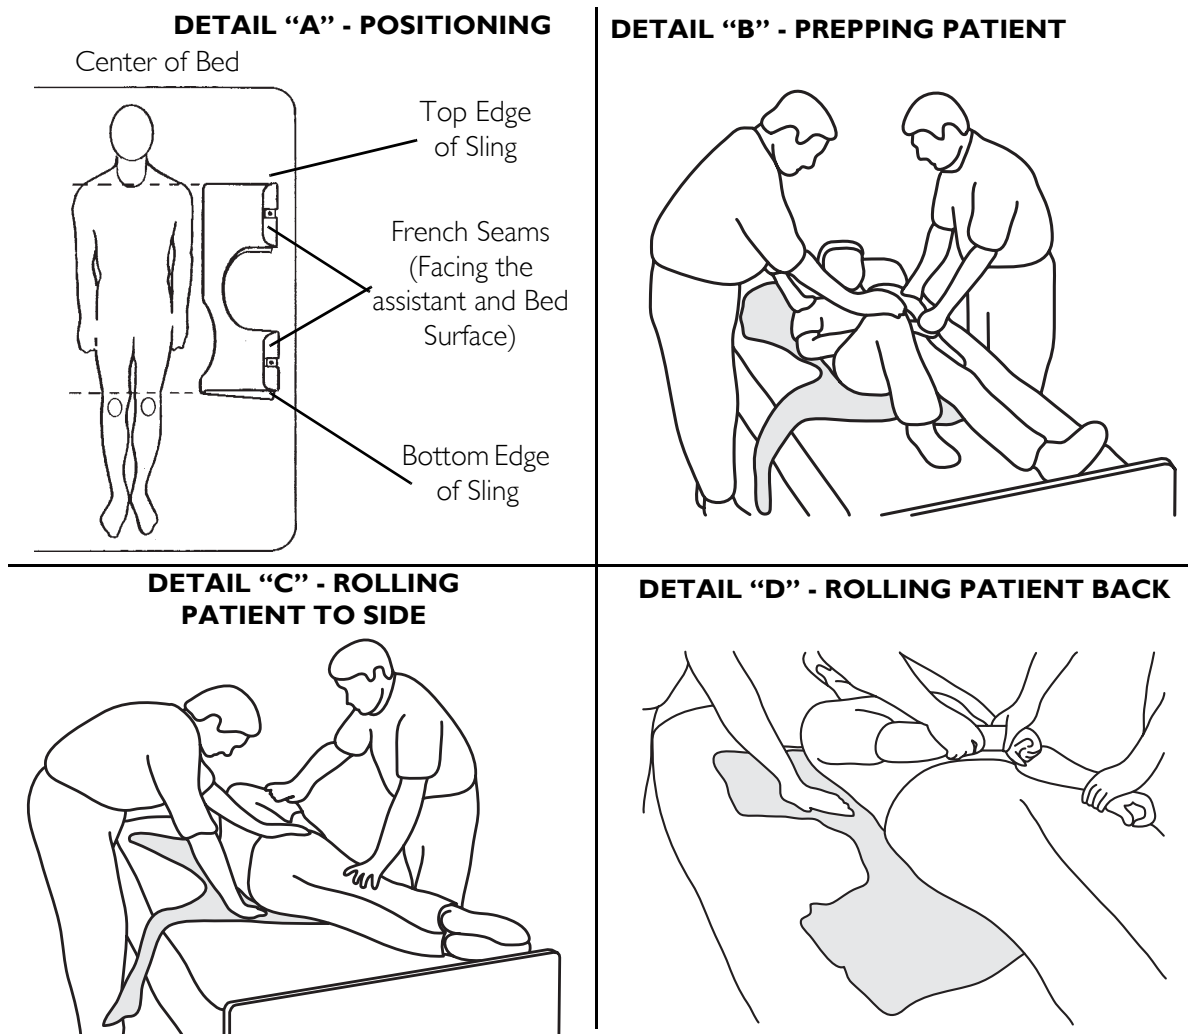

FIGURE 5.1 Positioning the Contour Sling
NOTE: For this procedure, refer to FIGURE 5.1.
NOTE: For this procedure, refer to FIGURE 5.1 and FIGURE 5.2.
1. If the patient is to roll to their left-side, then elevate the patient's right knee until the right foot is flat on the bed (Detail "B" of FIGURE 5.1).
2. With an assistant on each side of the bed and up against the mattress, the assistant on the left-hand side of the bed will position his/her right-hand on the elevated knee and his/her left-hand under the patient's right shoulder, slowly push on the knee and assist with a slight lift of the shoulder and the patient will easily roll onto their side (Detail "C" of FIGURE 5.1).
NOTE: The upper edge of the back section should be positioned slightly above the armpit level and the lower edge of the seat section positioned a few inches above the back of the patient's knees (Detail "A" of FIGURE 5.1).
4. Roll the patient on to his/her back (Detail "D" of FIGURE 5.1).